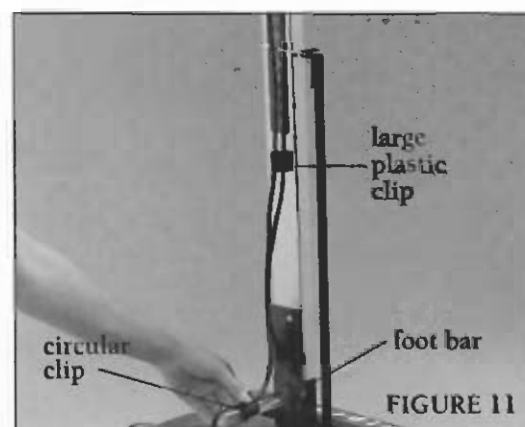

FIGURE 11
5. Route the 10-pin cable on the outside of the base in line with the acrylic foot bar. Attach the cable to the foot bar with one of the circular metal clips provided. Be sure to allow for movement of the ski under the cable (Figure 11).